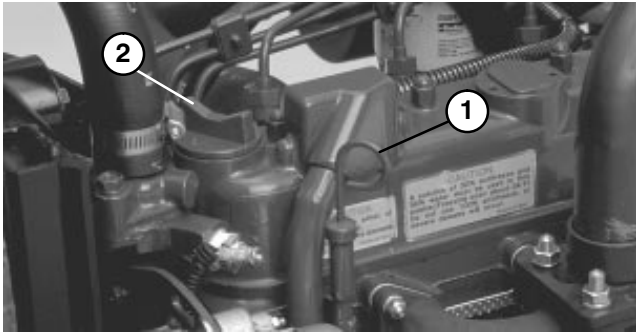
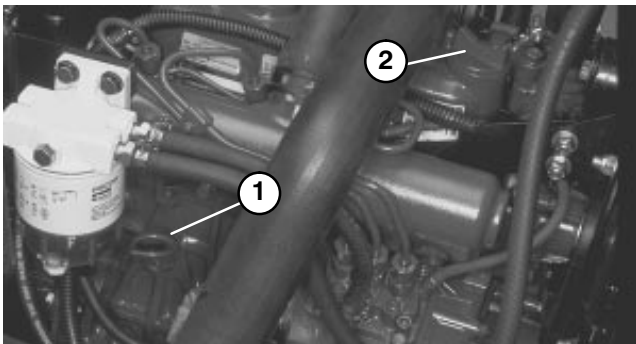

Figure 15
Figure 16
CHECK ENGINE OIL (Fig. 15 & 16)
2. Remove dipstick, wipe clean and reinstall dipstick. Remove dipstick and check oil level on dipstick; Oil level should be up to FULL mark (Reelmaster 5200 – Fig. 15, Reelmaster 5400 – Fig. 16).